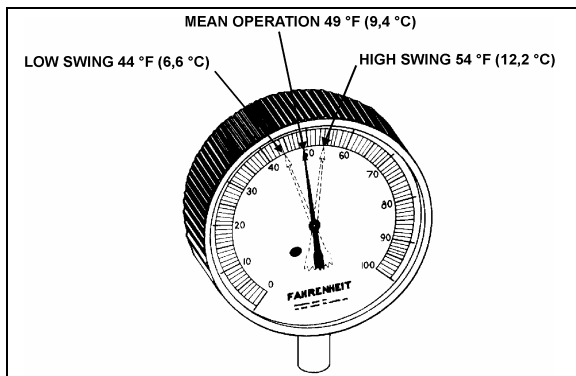

FIGURE 37: HIGH & LOW SWING TEMPERATURE AT REMOTE BULB 22047
- Check approximately 5 readings of pressure at 2-minute intervals and convert to temperature using the temperatures & pressures table (page 36). Likewise check the temperature reading at the remote bulb at the same 2-minute intervals and record the low and high swing readings of the needle (refer to Fig. 37).
Example of readings taken at fig. 37: